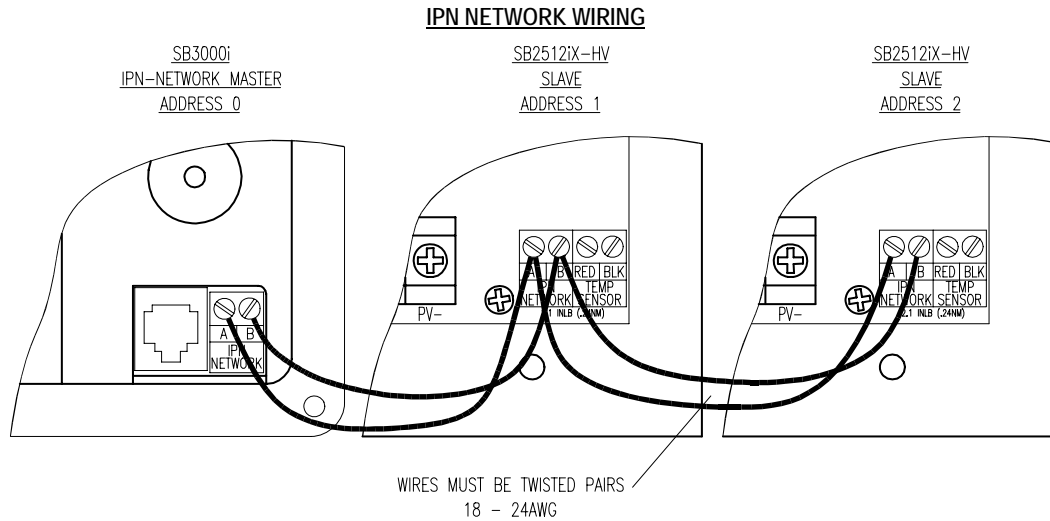

FIGURE 6
Controller types and their PV modules may be different. Each controller is installed as a separate standalone charging source connected to the battery and are then networked together. The 3000i serves as the charge control and network communication Master, controls the charging process, and directs the activities of one or more Slaves. No additional communication hardware or software is required to setup or operate the network. A network communication link is established between controllers by daisy chaining a twisted pair cable from the IPN Network terminal block, controller to controller (A-to-A, B-to-B) as shown in Figure 6. Up to 8 IPN based charge controllers can be connected together in a multi-controller system. The 3000i is fixed as device address 0 (zero) and serves as the IPN Network Master. Attached controllers are configured as Slaves set to addresses 1 through 7.
- 5) All controllers must be connected to the IPN network as shown in Figure 6.